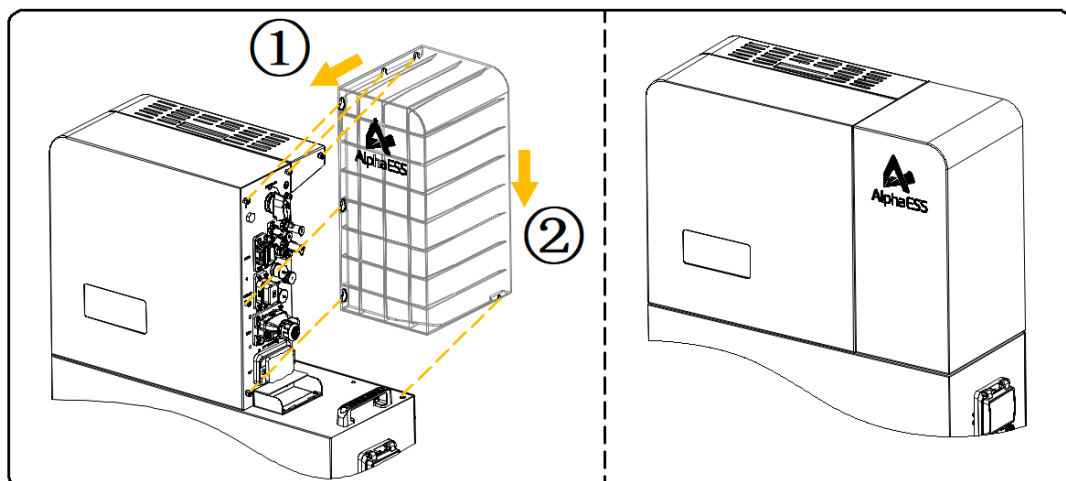

Figure 6-25 Install the cable cover for the battery
- Mount the cable cover of the inverter, Refer to 1-2 in Figure 6-25.